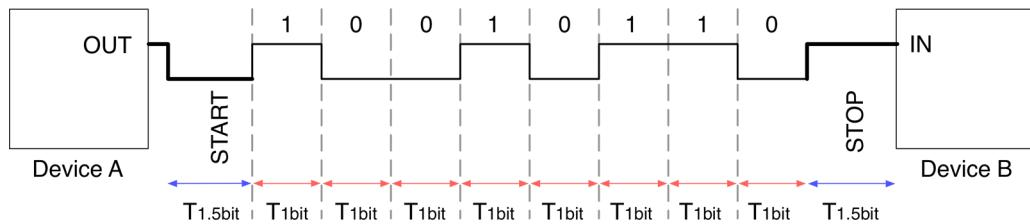

Figure 2: The timing diagram of a serial communication without a dedicated clock line
**Figure 2** shows the timing diagram of an asynchronous transmission. The idle state (that is, no transmission occurring) is represented by the high signal. Transmission begins with a **START** bit, which is represented by the low level. The negative edge is detected by the receiver and 1.5 bit periods after this (indicated in Figure 1s  $T_{1.5bit}$ ), the sampling of bits begins. Eight data bits are sampled. The least significant bit (LSB) is typically transmitted first. An optional parity bit is then transmitted (for error checking of the data bits). Often this bit is omitted if the transmission channel is assumed to be noise free or if there are error checking higher up in the protocol layers. The transmission is ended by a **STOP** bit, which last 1.5 bits.